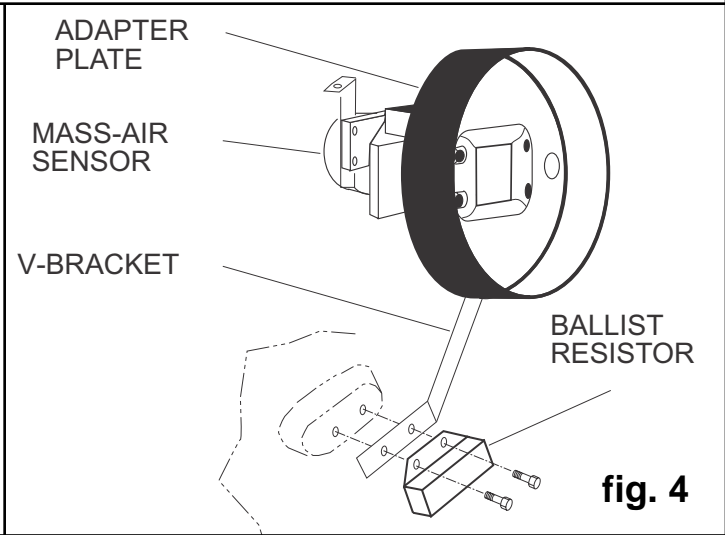

fig. 4
- 10) Install the "L" bracket at the back of the mass-air sensor and bolt it to the unused airbox hole. see fig. 4 for location.